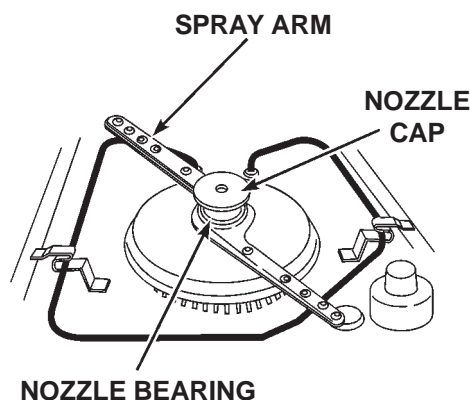

Fig. 2-6
1. Unscrew and remove the nozzle cap and remove the nozzle bearing and spray arm. (Fig. 2-6)